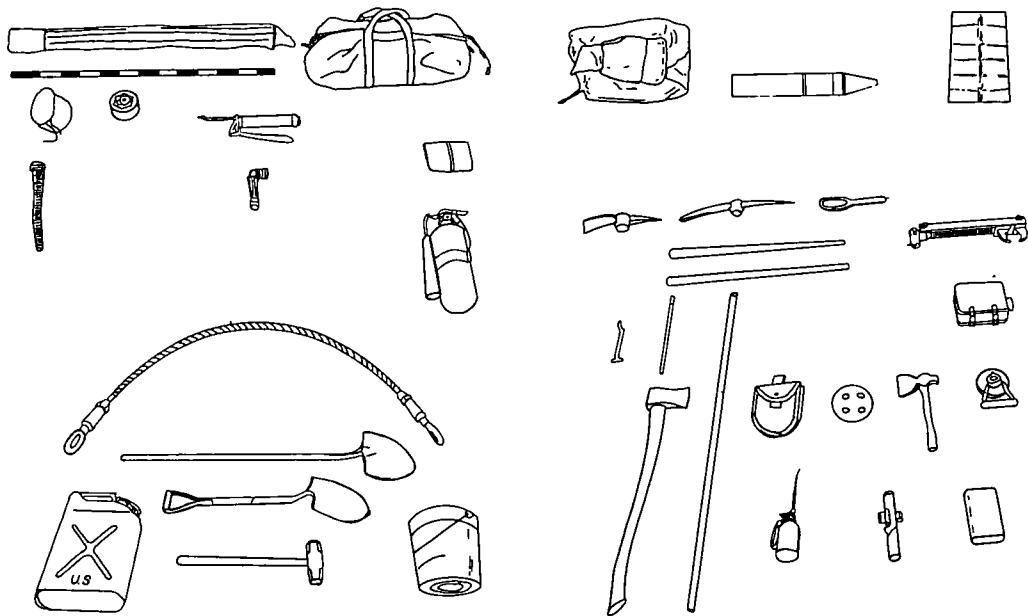

Figure 3. Section equipment.
b. Section equipment is shown in figure 3.